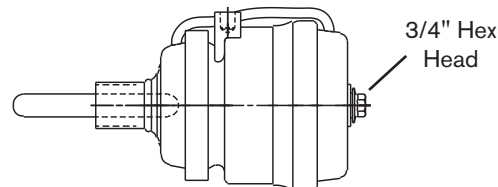

Figure 15b
2. Using a 3/4 inch socket, turn the tap bolt counterclockwise to fully cage (compress) the spring. The spring is fully compressed when the bolt is backed out of the unit 21 mm [0.83 inches]. (Refer to Figure 15b).